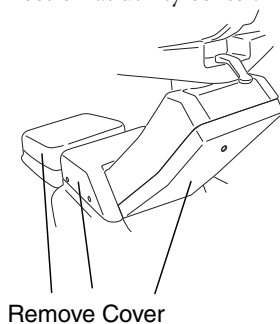

Figure 3: Remove covers.
1. Remove covers. (See Figure 3).